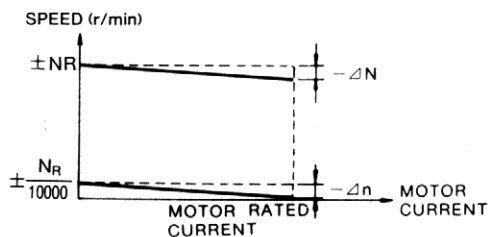

Fig. 12.2 Speed Variation
- (2) Speed Variation (Fig. 12.2)